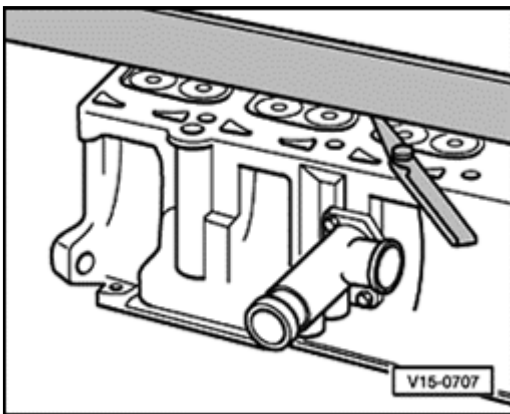

Fig. 66: Checking cylinder head for distortion
- Check for distortion. See Fig. 66 .
- Removing, installing and tensioning. Refer to **Fig. 66**